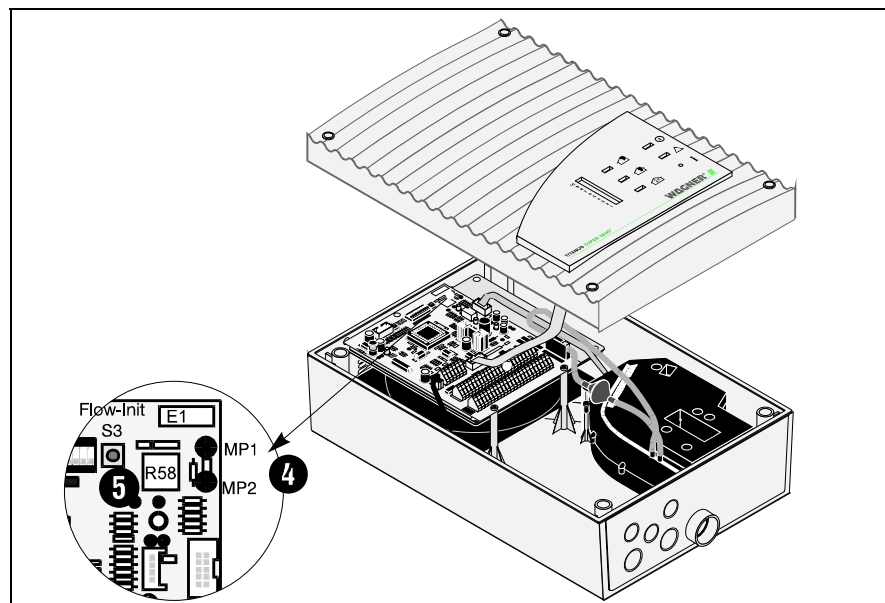

Fig. 7.2: Adjustment dependent on the air pressure of the air flow sensor of TITANUS®
- ❶ Determine the height above sea level of the mounting location of the air sampling smoke detection system and register the value in the commissioning protocol.
- ❷ Measure the air pressure by means of the pocket barometer and register the value in the commissioning protocol.
- ❸ Determine the adjustment value for the air flow sensor according to the air pressure adjustment charts (refer to appendix) and register the value in the commissioning protocol. Pay attention that the adjustment chart corresponds to the project planning of the pipe system.
- ❹ Connect the measuring device to the test jacks MP1 (+), MP2 (-) (refer to Fig. 7.2). Pay attention to the polarity. Choose the "V-DC"-range of the measuring device. The standard voltage at the measuring points is 2.5 V.
- ❺ Set the trimming potentiometer R58 to the determined value of the air pressure adjustment chart by means of a small screw driver. A tolerance of ± 100 mV is allowed.
- ❻ Proceed according to chapter 7.1.2 "Adjustment Independent of the Air Pressure".